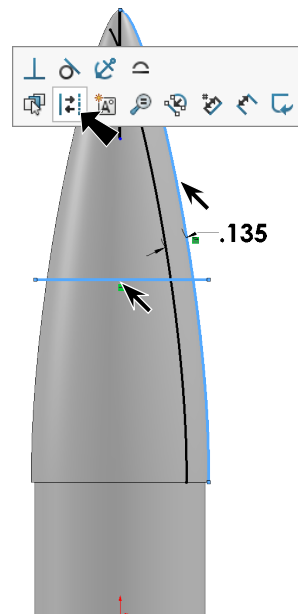

Fig. 16
Step 10. Make **converted silhouette edge and horizontal line construction geometry**. To make construction geometry, Ctrl click **converted silhouette edge and horizontal line construction line** to select both and click **Construction Geometry**  on the context toolbar, **Fig. 16**.